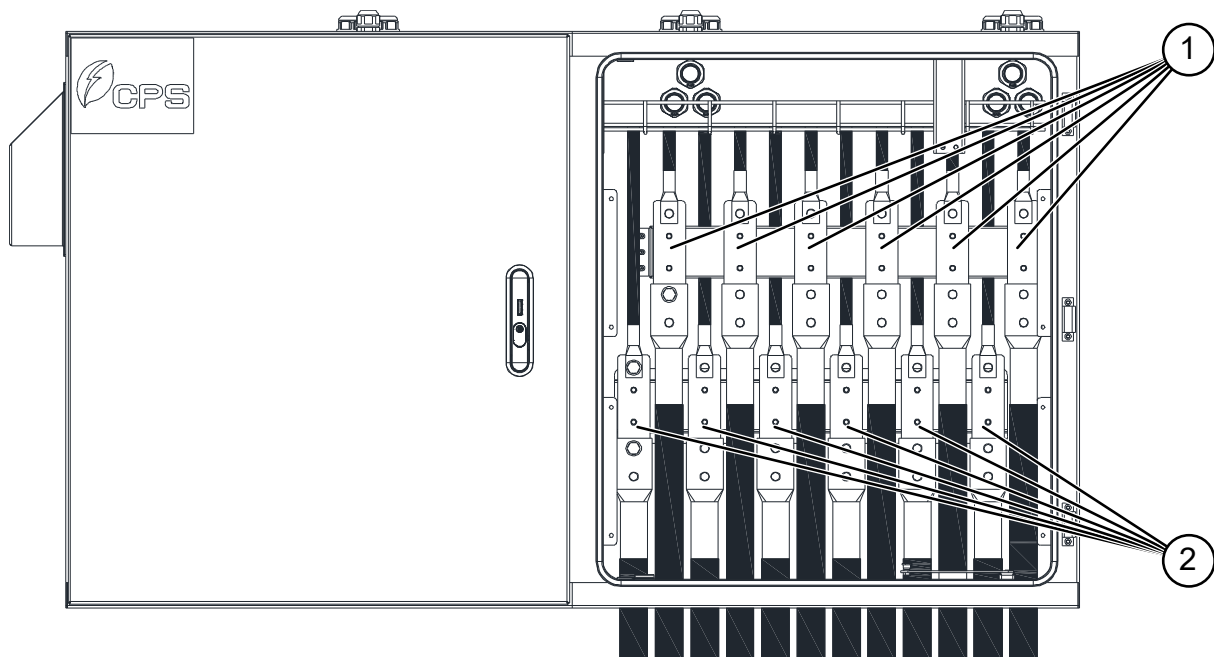

Fig. 3-9 DC Input Wiring Position
- Connect the DC positive (1) and negative cables (2) to the positive and negative copper bars of the PCS skid accordingly. The positions of the DC input positive and negative wiring copper bars are shown in Fig. 3-9.